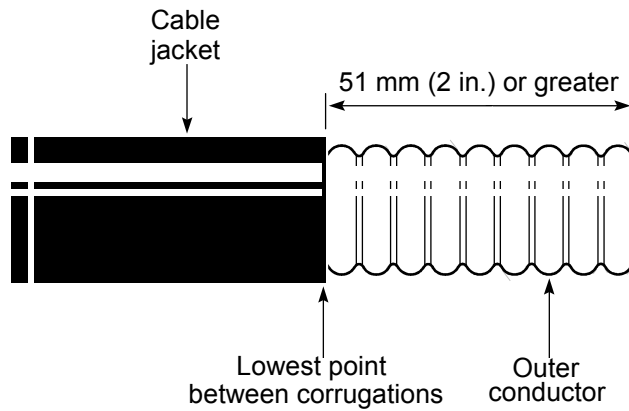

Figure 69 – Removing the cable jacket
1. Strip 51 mm (2 in.) or more of the cable jacket from the IF cable, ending at the lowest point of a valley between two corrugations, as shown in *Figure 69*.